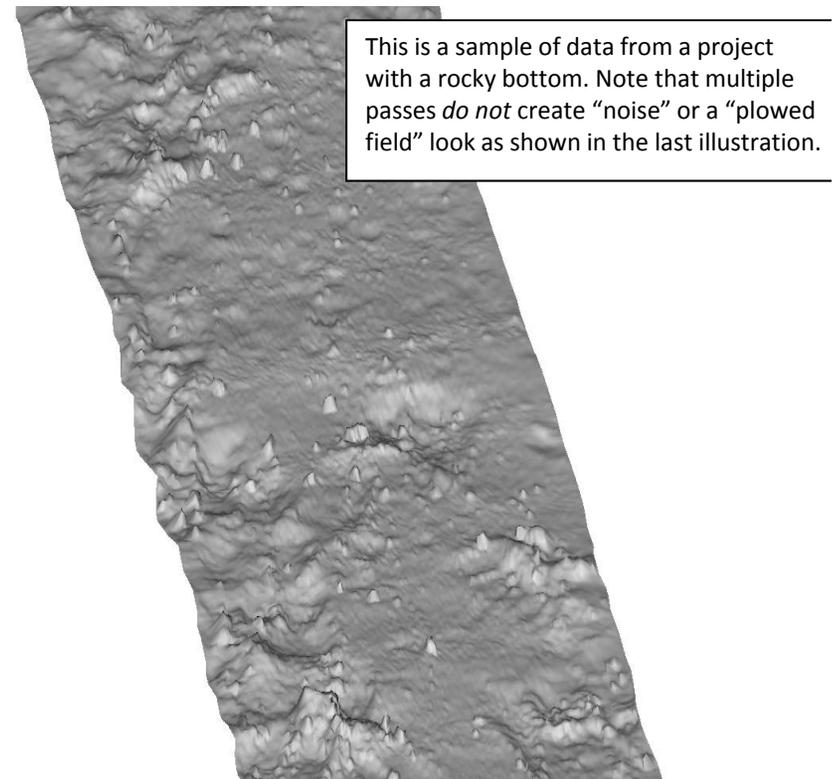

Figure 9. Survey Results from Rocky Bottom
- Figure 9 comes from a different, but similar project.